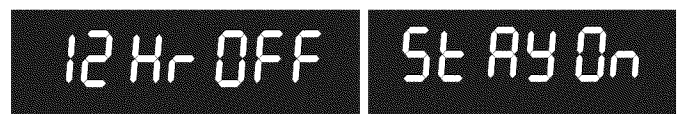

Figure 15: 12 hr energy saving (L) and continuous setting (R)
2. Press **Self Clean** to toggle between 12 Hour OFF or Stay On (Figure 15) feature.